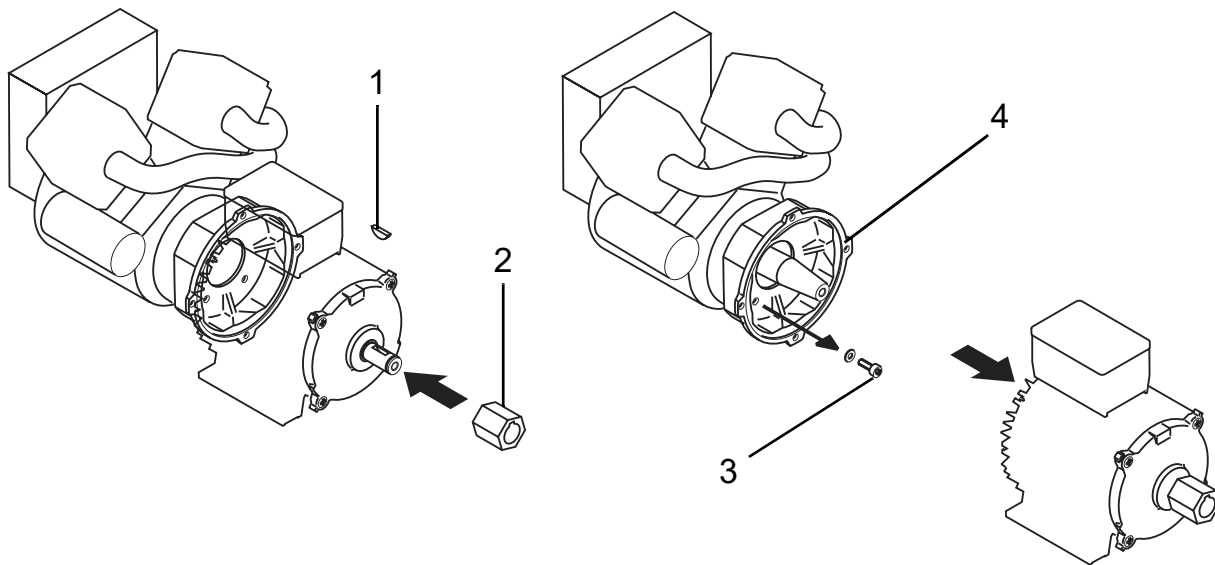

Fig. 36 Disassembly of brushless single-bearing generators (2)
- ⇒ **Fig. 36, Disassembly of brushless single-bearing generators (2), page 110,**
To do so, unscrew the four screws [3] (Figure 36) and remove the bearing plate [4].